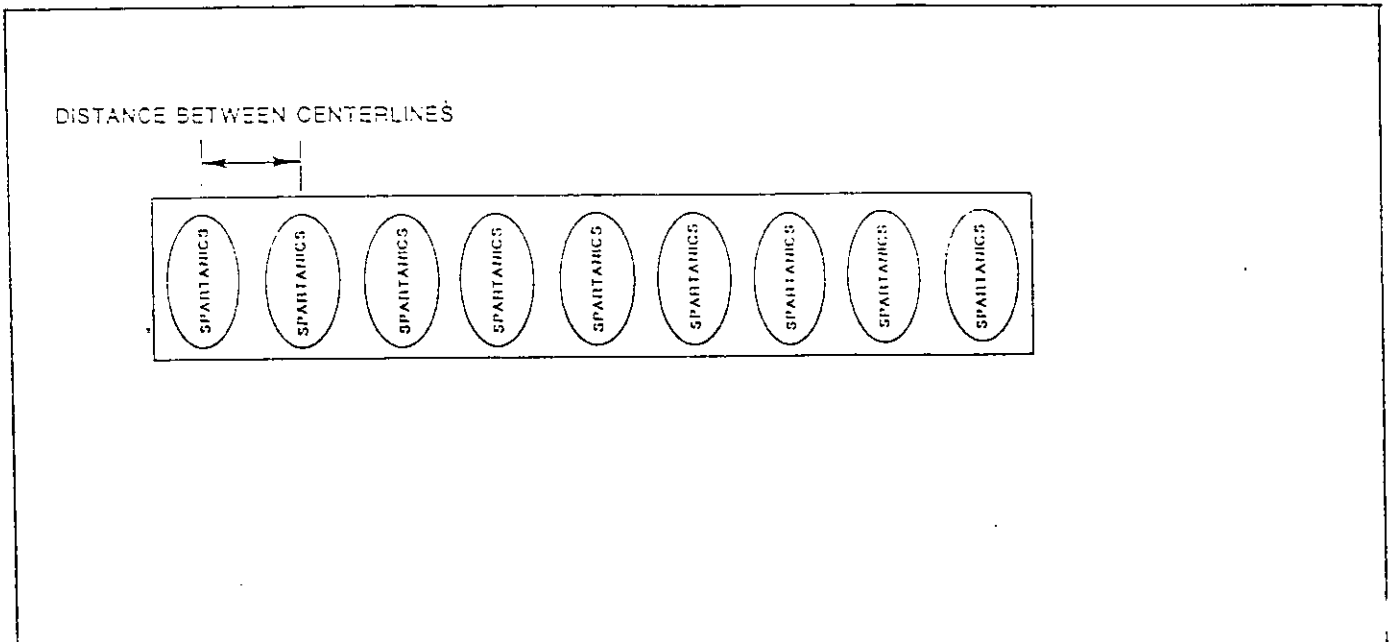

Figure 1-14
STEP 10: Measure distance between centerlines of two adjacent parts on a strip of material. See Figure 1-14.